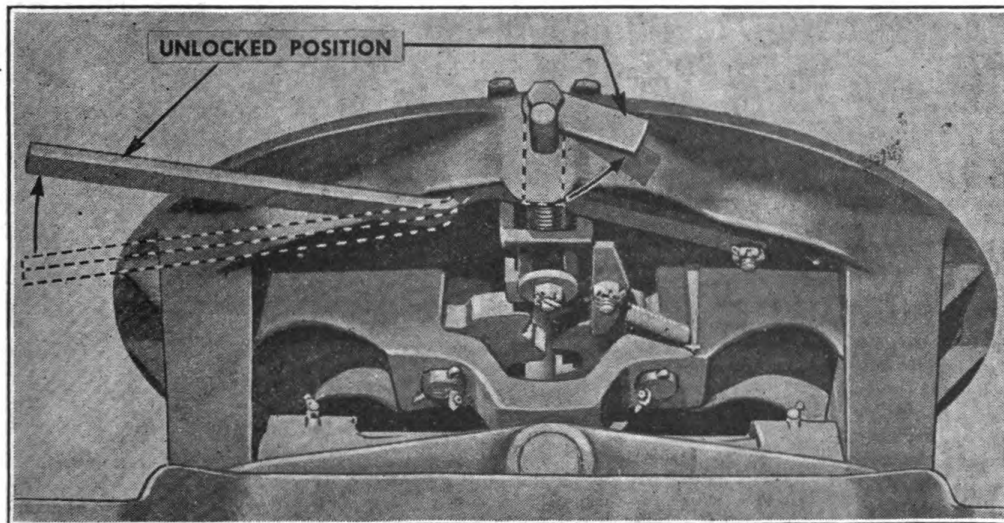

FIGURE 7. CONTROLS—COUPLER MOUNTED ON TOWING VEHICLE.
*d. Coupler operating handle mounted on towing vehicle (Fig. 7).—*To uncouple towing vehicle from the semi-trailer, push back the operating handle until you hear the latch drop in behind the lug on the plunger. This holds the plunger in the unlocked position until the towing vehicle is withdrawn. During this operation the entire mechanism is cocked for recoupling.